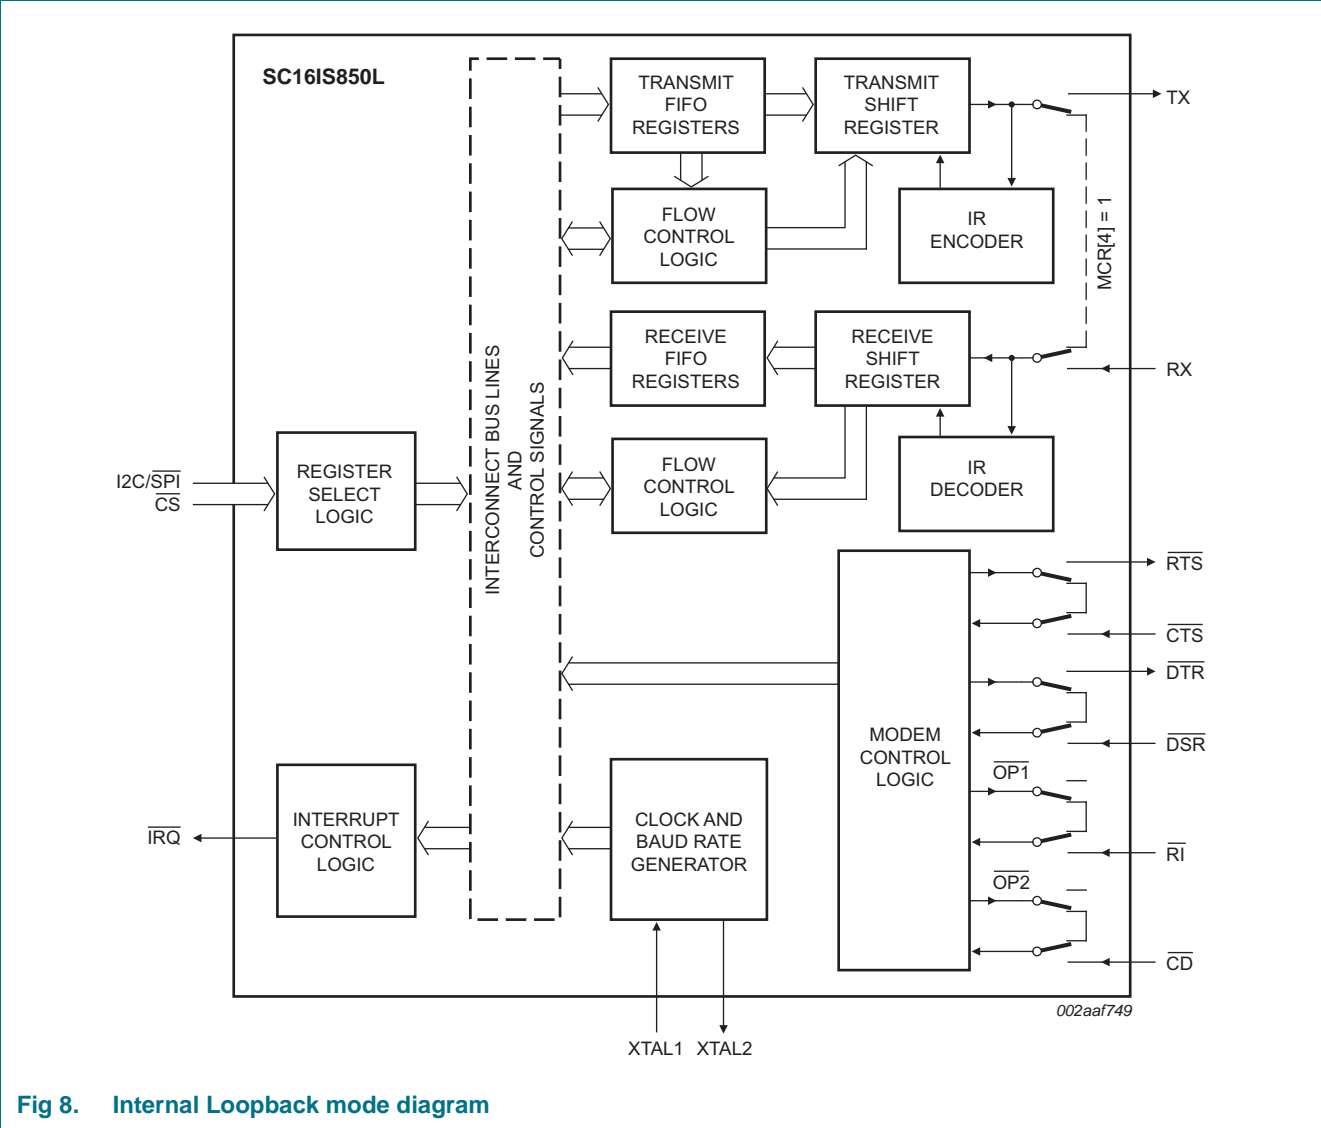

Fig 8. Internal Loopback mode diagram
The internal loopback capability allows on-board diagnostics. In the Loopback mode, the normal modem interface pins are disconnected and reconfigured for loopback internally (see Figure 8). MCR[3:0] register bits are used for controlling loopback diagnostic testing. In the Loopback mode, the transmitter output (TX) and the receiver input (RX) are disconnected from their associated interface pins, and instead are connected together internally. The  $\overline{\text{CTS}}$ ,  $\overline{\text{DSR}}$ ,  $\overline{\text{CD}}$ , and  $\overline{\text{RI}}$  are disconnected from their normal modem control input pins, and instead are connected internally to  $\overline{\text{RTS}}$ ,  $\overline{\text{DTR}}$ , MCR[3] ( $\overline{\text{OP2}}$ ) and MCR[2] ( $\overline{\text{OP1}}$ ). Loopback test data is entered into the transmit holding register via the user data bus interface, D[7:0]. The transmit UART serializes the data and passes the serial data to the receive UART via the internal loopback connection. The receive UART converts the serial data back into parallel data that is then made available at the user data interface D[7:0]. The user optionally compares the received data to the initial transmitted data for verifying error-free operation of the UART TX/RX circuits.